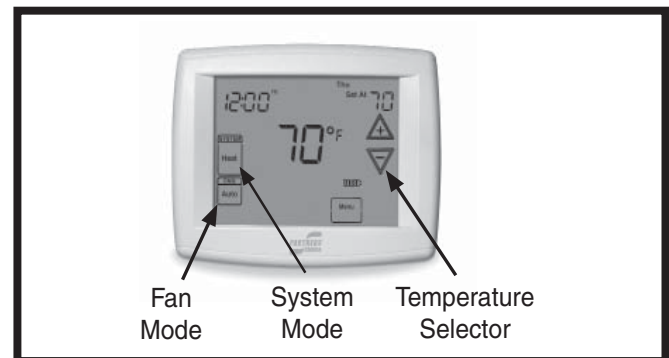

Figure 1. Digital Thermostat
1. Set the thermostat's system mode to COOL or AUTO and change the fan mode to AUTO. See Figure 1
1. Set the thermostat's system mode to HEAT or AUTO and change the fan mode to AUTO. See Figure 1.
1. Set the thermostat system mode to AUTO and the thermostat fan mode to AUTO. See Figure 1.
The continuous indoor blower operation is typically used to circulate the indoor air to equalize a temperature unbalance due to a sun load, cooking, or fireplace operation. Set the thermostat fan mode to ON (Figure 1). The indoor blower starts immediately, and will run continually until the fan mode is reset to AUTO.
Change the thermostat's system mode to OFF and the fan mode to AUTO (See Figure 1). **NOTE:** The system will not operate, regardless of the temperature selector setting.